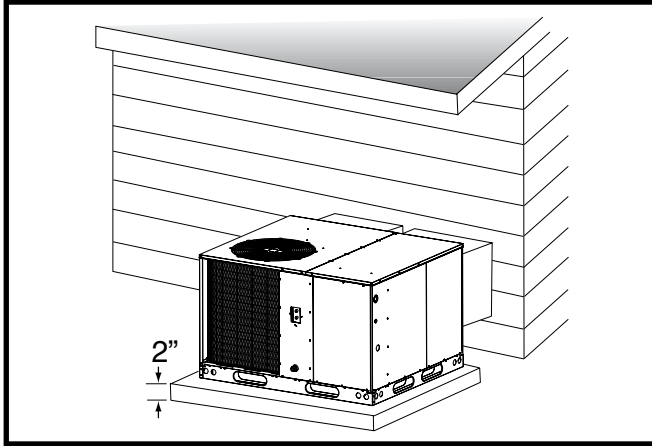

Figure 2. Ground Level Installation
- A suitable mounting pad must be provided and separate from the building foundation. The pad must be level to ensure proper condensate disposal and strong enough to support the unit's weight. The slab height must be a minimum of 2" (5cm) above grade and with adequate drainage. See Figure 2, \(page 6\).